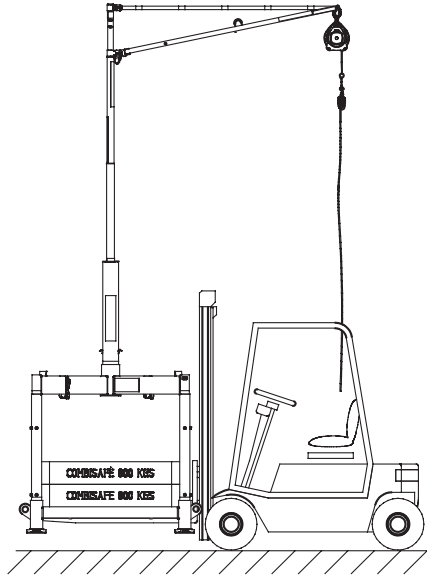

Figure 31. *Lifting the whole unit for transportation.*
1. Place the forks underneath the Base into the fork guiding profiles, see Figure 31. Lift the unit slowly and make sure that no part on the Loading System MkII is obstructed.